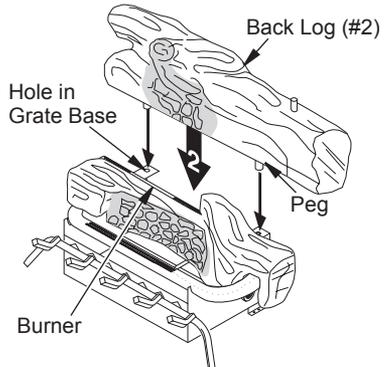

Figure 26 - Installing Back Log (#2)
2. Locate pegs on bottom of back log (#2). Slide these pegs into holes in grate base behind burner (see Figure 26).